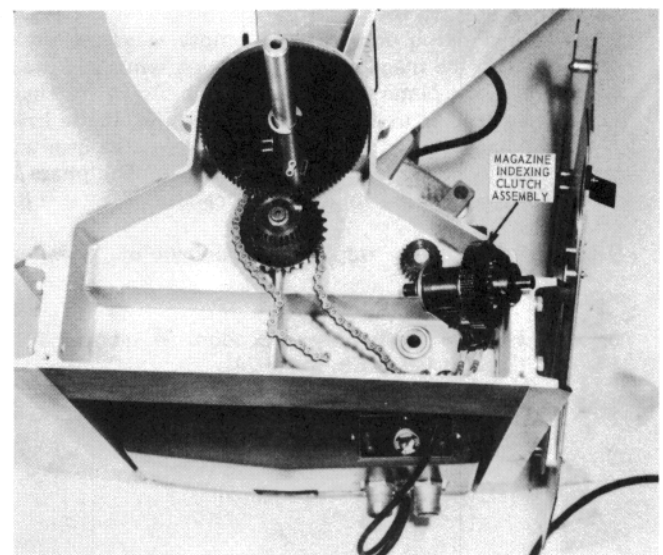
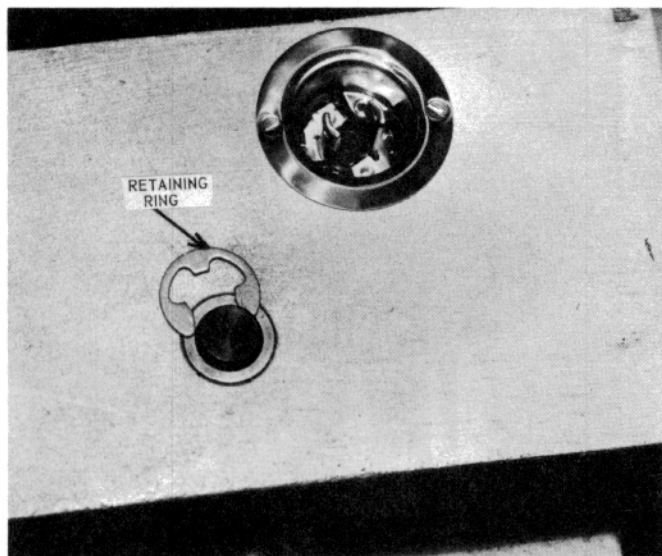

Figure 89 — Removing Indexing Clutch Assembly
Figure 90 — Magazine Clutch Retaining Ring
- 7.1.7 The magazine indexing clutch (see Figure 89) is removed by disengaging the clutch shaft retaining ring (see Figure 90) located beneath the magazine gearbox.